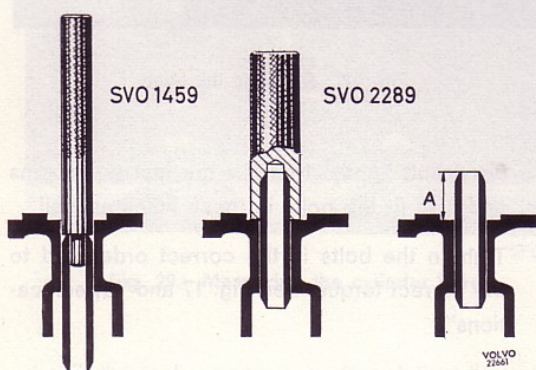

Fig. 24. Replacing the valve guides
2. Press in the new guides using drift SVO 2289 which gives the correct depth, see Fig. 24.